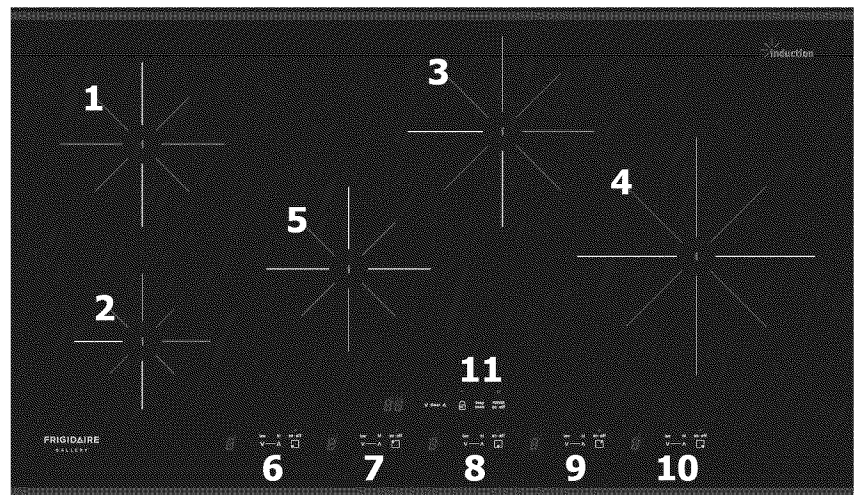

Figure 2 - 36" Model
5. Center Rear Cooking Zone (Fig. 2 only)
8. Center Cooking Zone Control Pads (Fig. 2 only)